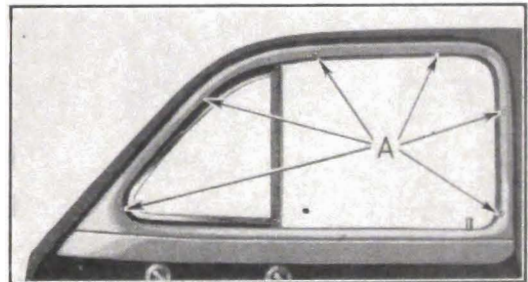

Fig. 1-51. Garnish Molding Removal
- 2. Remove the screws "A", Fig. 1-51, which